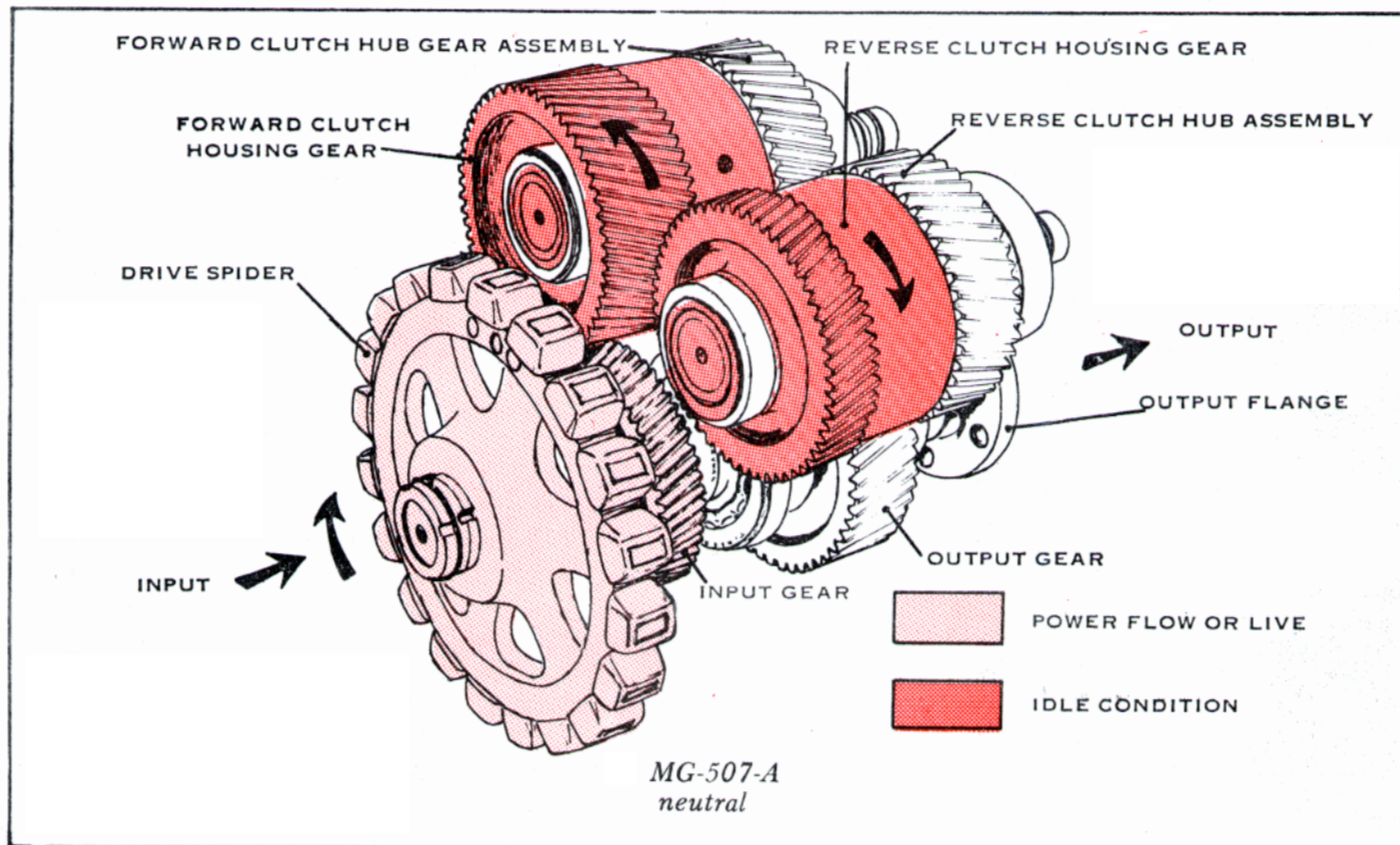

Figure 4. Model MG-507-A Marine Transmission Power Flow - Neutral - Schematic View.
A. Neutral (fig. 4). When in neutral, all parts that rotate in the marine transmission while in this position, turn at 1.056 : 1, ratio of engine speed. The connecting member between the engine and the Marine Transmission is the driving ring. The drive spider is on the input shaft. The input gear is on the input shaft. Therefore the input gear turns at engine speed and in engine direction. The input gear is in constant mesh with the forward clutch housing gear, and turns the gear the clutch shaft and the sintered metal clutch plates at a.m. ratio of engine speed and in anti-engine direction. The forward clutch housing gear is in constant mesh with the reverse clutch housing gear, and the gear, the clutch shaft, and the sintered metal clutch plates rotate at 1.056 : 1, ratio of engine speed and in engine direction. The oil pump assembly which is connected to the end of the reverse clutch shaft, also